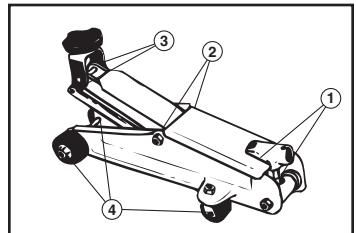

Fig. 4
2. Keep jack clean and well lubricated at points illustrated in figure 4.